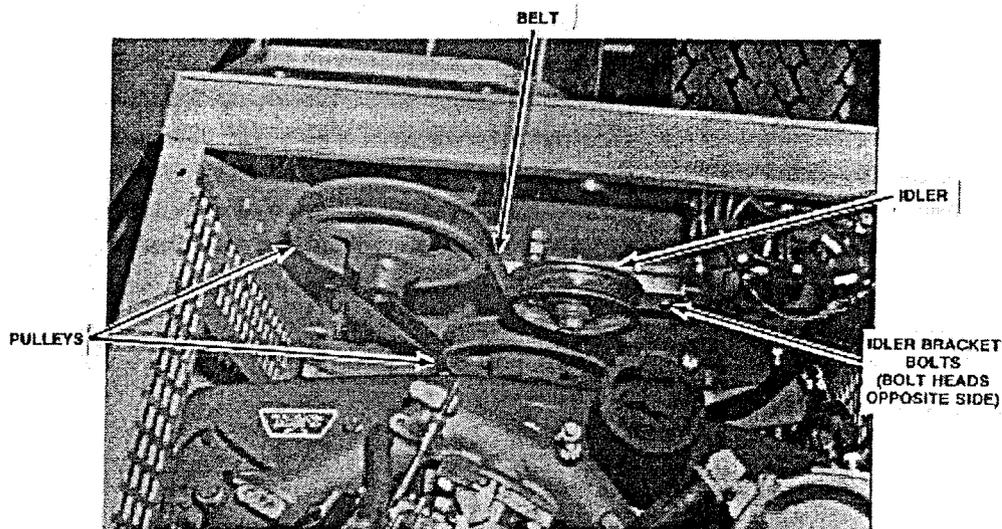

FIG. 1-20 Generator Belt, Idler and Pulleys
- (1) Loosen idler bracket bolts.
- (2) Run belt off pulleys.
- (3) Replace belt part #6879.
- (4) Tighten idler pulley so that belt can be depressed 1/2" between generator pulley and engine pulley.
- (5) Tighten idler bracket bolts.
b. Belt Tightness Adjustment (Figure 1-20)
- (2) Tighten idler pulley so that the belt can be depressed 1/2" between generator pulley and engine pulley.
- (3) Tighten idler bracket bolts.
- (4) Inspect pulley alignment.
c. Pulley Alignment (Figure 1-20)
- (2) Loosen setscrew on pulley(s) that is out of alignment.
- (3) Slide pulley(s) on shaft until it is aligned with idler pulley.
- (4) Tighten setscrew(s).
- (5) Tighten idler pulley so that the belt can be depressed 1/2" between generator pulley and engine pulley.
- (6) Tighten idler pulley bracket bolts.
- (7) Recheck alignment.
e. Generator Replacement (Figure 1-20)
- (1) Loosen idler bracket bolts and run belt off pulleys.
- (2) Loosen generator pulley setscrew and remove pulley.
- (3) Remove nut and bolt from generator support bracket.
- (4) Remove four bolts on inside of motor housing from generator mounting rods.
- (5) Remove generator from motor housing.
- (6) Reverse procedure to reinstall generator. Check pulley alignment and adjust if necessary.